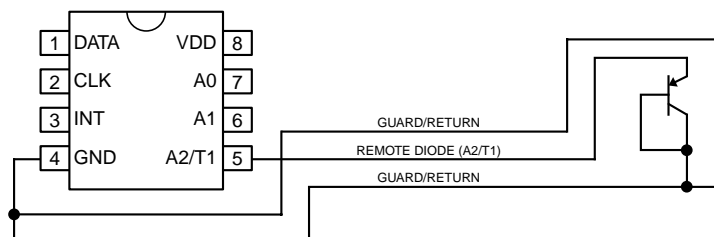

Figure 8. Guard Traces/Kelvin Ground Returns
to use these guard traces to carry the diode's own ground return back to the ground pin of the MIC184, thereby providing a Kelvin connection for the base of the diode. See Figure 8.
3. When using the MIC184 to sense the temperature of a processor or other device which has an integral on-board "diode" (e.g., Intel's Pentium® III), connect the emitter and base of the remote sensor to the MIC184 using the guard traces and Kelvin return shown in Figure 8. The collector of the remote "diode" is inaccessible to the user on these types of chips. To allow for this, the MIC184 has superb rejection of noise appearing from collector to GND, as long as the base to ground connection is relatively quiet.